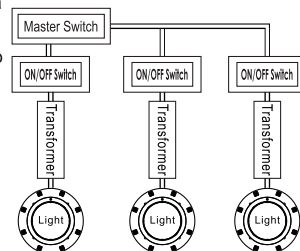

Figure 1
1. When the light is connected to the transformer directly, the on/off switch controls the colour changes (a light with a transformer with an on/off switch is recommended; If you want all the lights to change colour at the same time, please install a master switch, Figure 1).